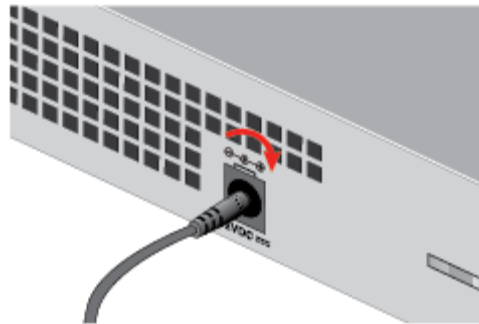

Figure 32. Locking the Power Cord for the DC Power Supply Socket
2. If your switch is the AT-GS910/5E or AT-GS910/8E switch with a DC power supply socket, turn the power cord clockwise one-quarter to lock, as shown in Figure 32.